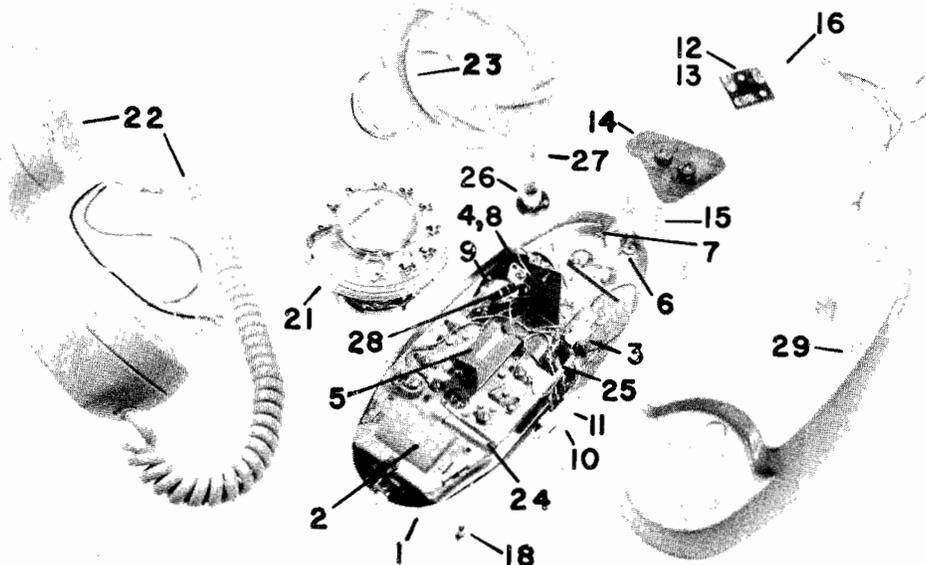

Fig. 3-1 COMPONENT PARTS - EXPLODED VIEW
3.1 The exploded view of Fig. 3-1 shows all the component parts and sub-assemblies of the K-700 basic instrument. Procedures for disassembly and assembly are given below. Additional parts which are included to provide special features should be removed and replaced in any convenient order. Note